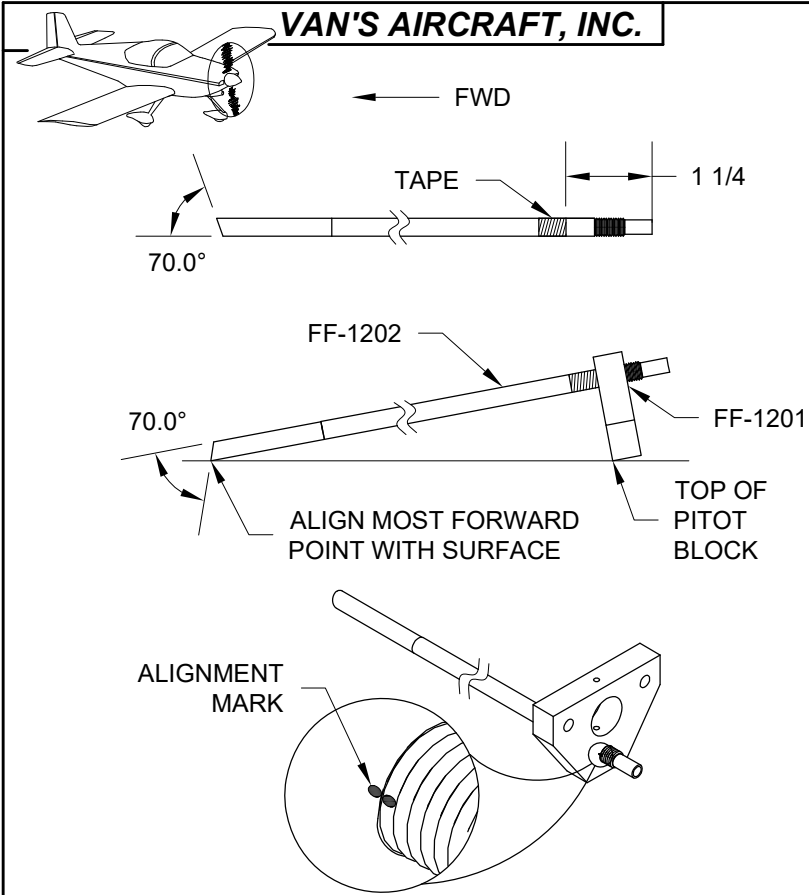

FIGURE 1: DRILLING THE PITOT TUBE
Step 1: Mark the FF-1202 Pitot Tube by wrapping with masking tape 1 1/4 inches from the aft end as shown in Figure 1. Insert the pitot tube into the FF-1201 Pitot Block up to the edge of the tape. The threaded portion of the pitot block is aft.
Flip the pitot tube and pitot block over on a flat surface. Align the most forward point of the pitot tube with the top of the pitot block and make a small scratch to use as an alignment mark on the pitot tube and pitot block as shown in Figure 1.